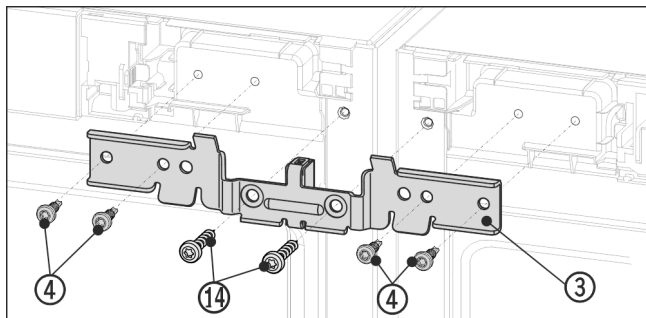

Fig. 12 Example illustration
- ▶ Slide the bracket Fig. 12 (3) with the spacer between the appliances onto the pins. Loosely screw on the bracket with four screws Fig. 12 (4) and the previously unscrewed grounding screws Fig. 12 (14) alternately on the right and left.